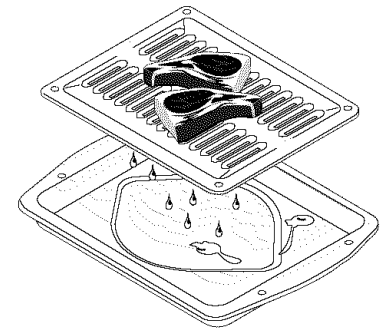

Fig.1 (some models)
Speed Bake™ Cooking System uses a fan to circulate the oven's heat uniformly & continuously around the oven. This improved heat distribution allows for fast, even cooking and browning results. It also gives better baking results when using two racks at the same time (See Fig. 1).
5. Place the insert on the broil pan (if equipped), then place the food on the insert (if equipped; See Fig. 1).